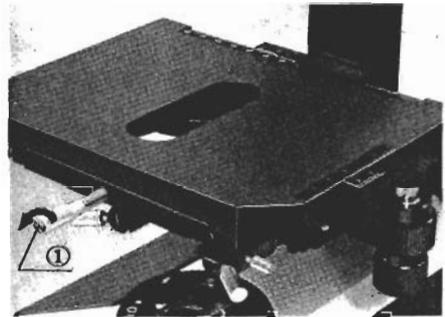

Fig. 2
④ Mounting the stage
- 1) Loosen the stage clamping screw ① by rotating counterclockwise. (Fig. 2)